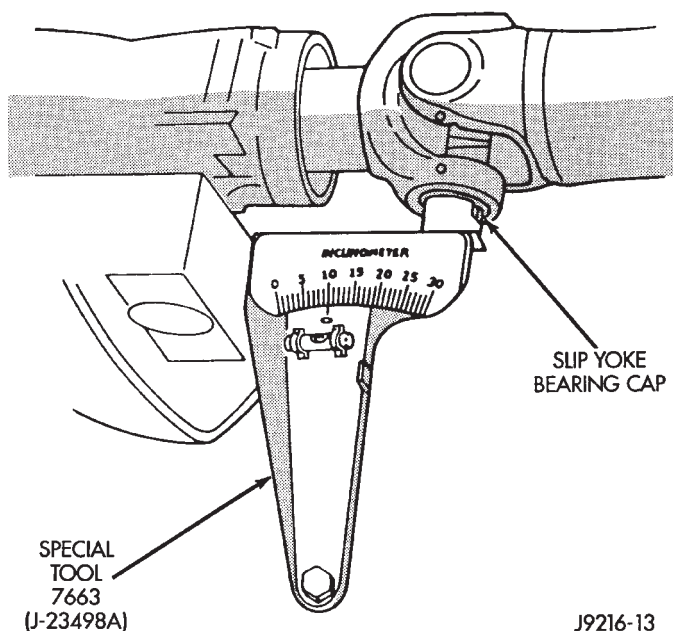

Fig. 11 Front (Output) Angle Measurement (A)
- (2) Place Inclinator on yoke bearing (A) parallel to the shaft (Fig. 11). Center bubble in sight glass and record measurement.